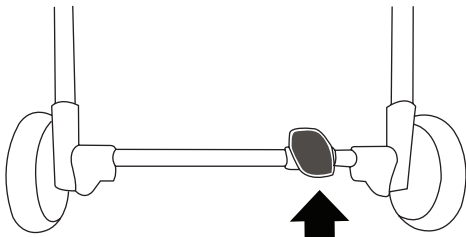

Fig. 4A
- **To release brakes:** Gently lift up on the linked brake lever (Fig. 4A).